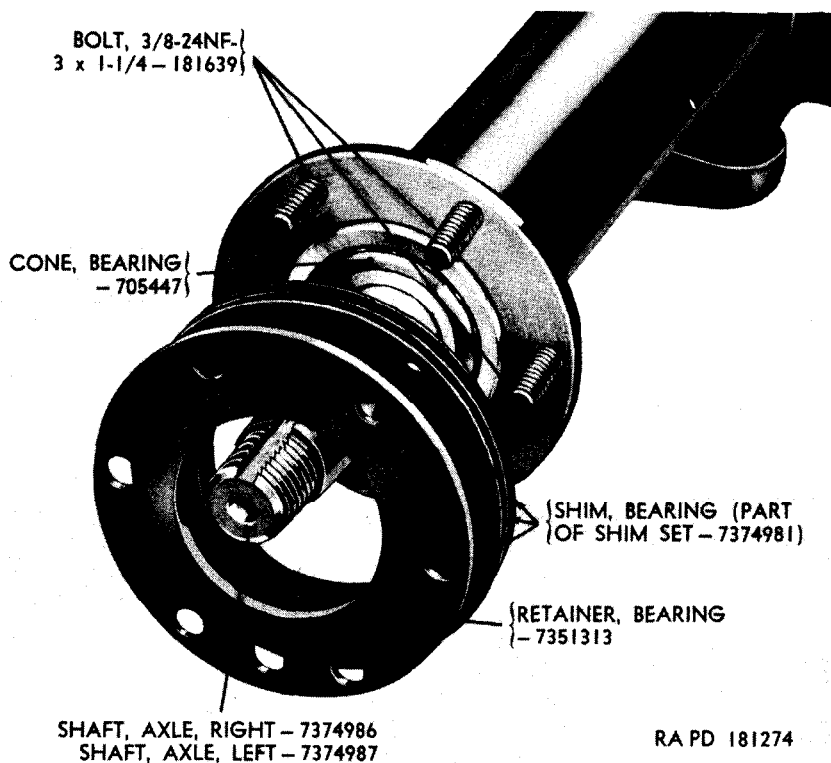
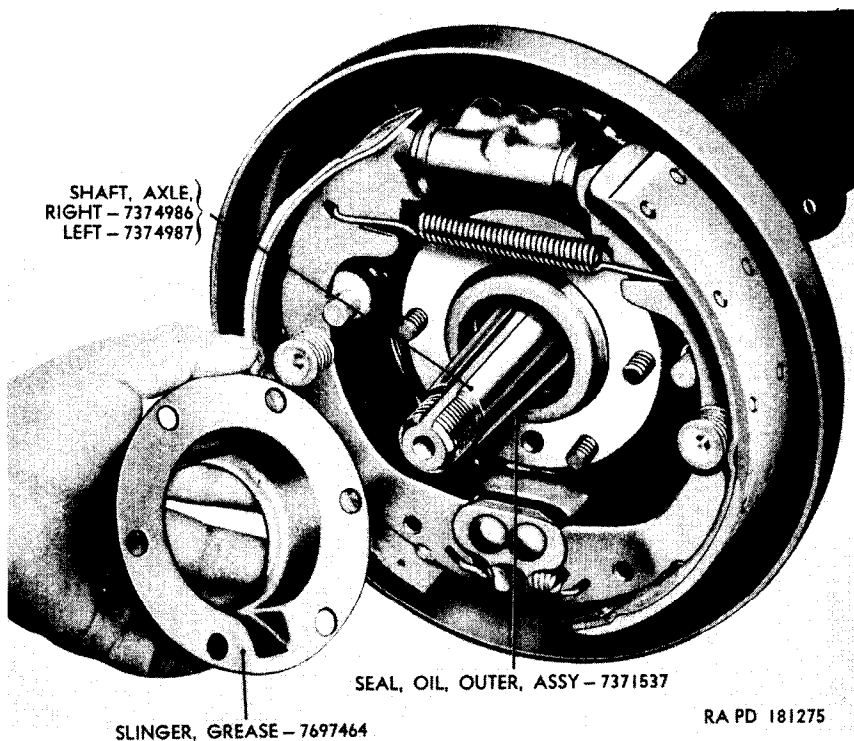

Figure 138. Bearing shims and bearing retainer in position on rear axle shaft.
Figure 139. Installing grease slinger.
c. *Install Brake Assembly.* Install bearing shims and bearing retainer on axle shaft (fig. 138). Install six 3/8-24NF-3 x 1 1/4 bolts in flange of housing tube. Install new or rebuilt brake assembly. Refer to paragraphs 184 through 193 for brake assembly rebuild instructions. Coat grease slinger gaskets with plastic type gasket cement. Install gaskets, one on each side of outer oil seal assembly. Install outer oil seal assembly and rear grease slinger (fig. 139). Install six 3/8-24NF-3 lockwasher nuts. Tighten nuts to torque of 25 to 35 pound-feet.